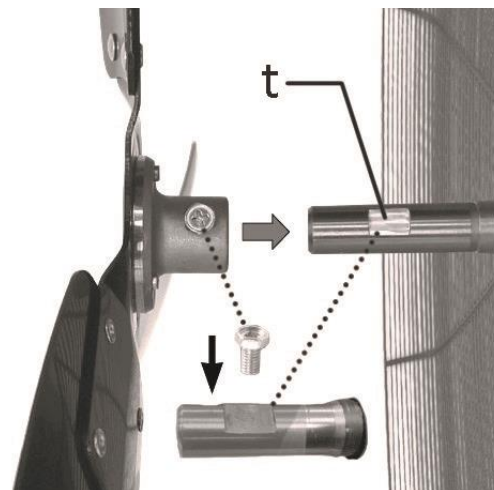

fig.14
2. Insert the center of the fan blade (align with the groove/flat part (t) of the motor shaft) into the motor shaft and tighten the screw on the middle of the fan blade. (fig.14)